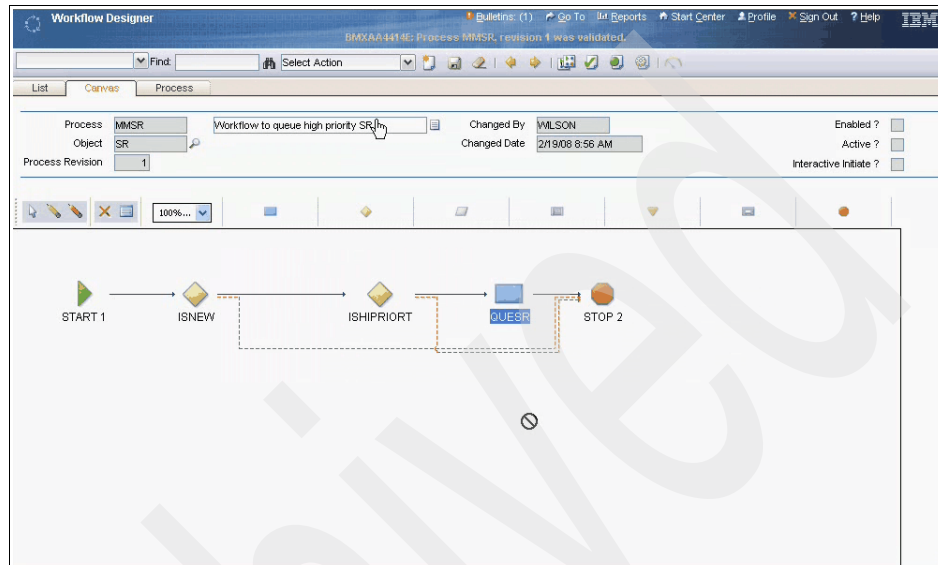

Figure 8-56 Object validation
16. From the Select Action menu, choose **Validate Process**. If the validation returns successfully, as shown by the red notification on the menu bar in Figure 8-56, the MMSR workflow and all related objects we selected (roles, communication template, and action) are migrated successfully.